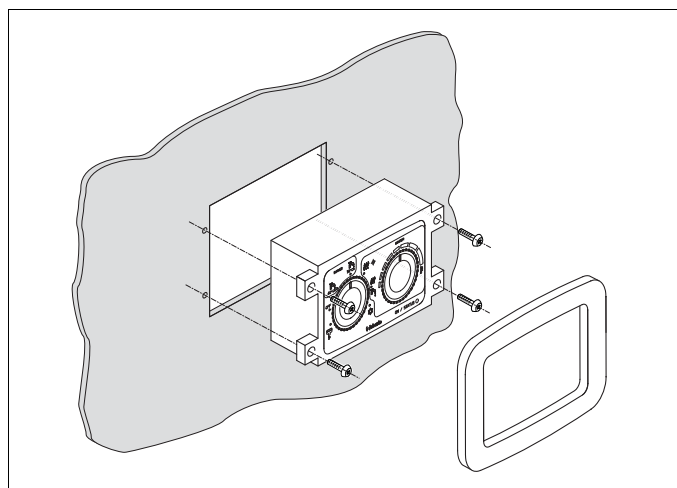

Fig. 701 Manual control panel (dis)assembly
2. Remove control panel as shown (see Fig. 701).